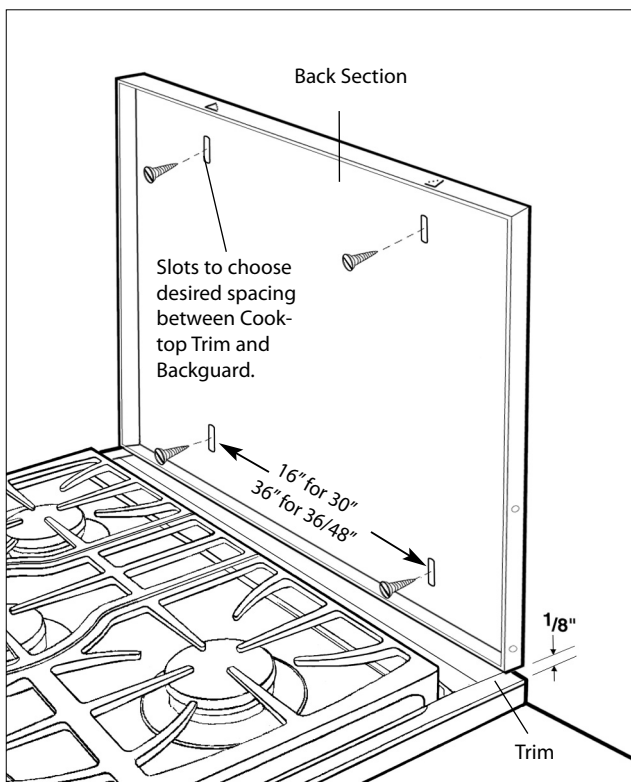

Fig.03
2. After unpacking all backguard system parts, locate the Back Section 1/8" (see fig. 03) above and centered over the Trim attached to the cooktop.* Secure Back Section to wall with the appropriate fasteners (not supplied) to anchors or wood stud (fig. 03).